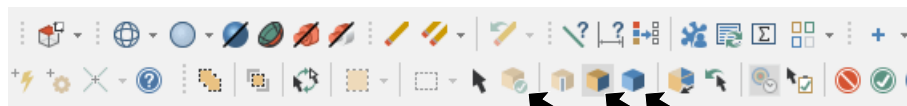

Fig. 8
Step 7. Click **Activate solid selection** button  in the Solids selection ribbon bar and click **Select face**  and unselect **Select body** , Fig. 8.